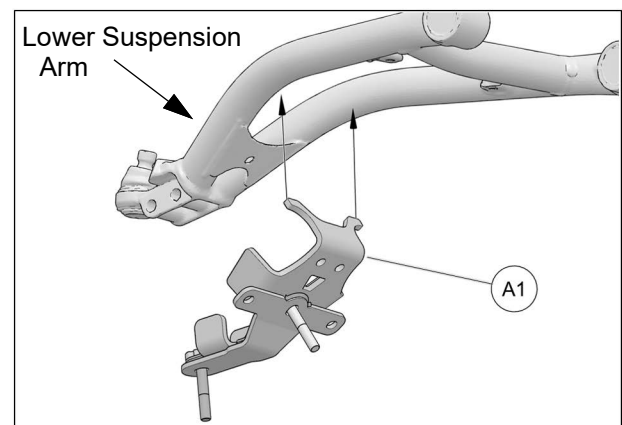

Fig. 15
6. Position bottom part of anchor bracket (**A1**) under lower suspension arm. Hook back end of bracket on suspension arm members. See Fig. 15